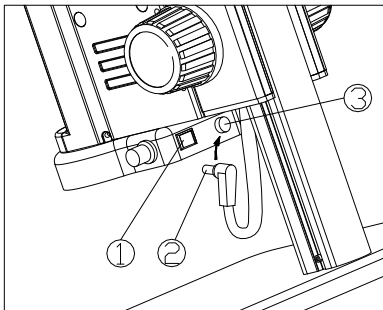

Fig. 6
- 1) Insert the power cord plug② of body group into the ring light interface③, then turn on the switch① to start the light source. (See Fig.6)